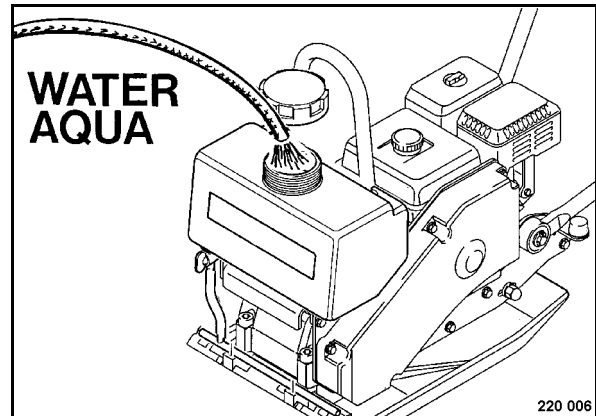

Fig. 34
- Open the water tank (Fig. 34) and fill in clean water.